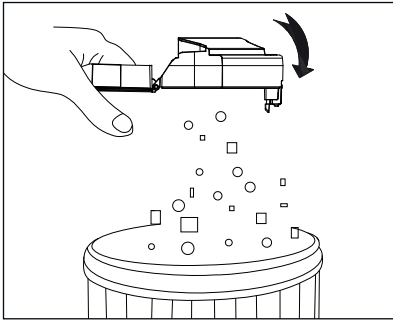

Fig. 9
- 3) Empty the contents of the dust container **14** into a waste container (see Fig. 9).